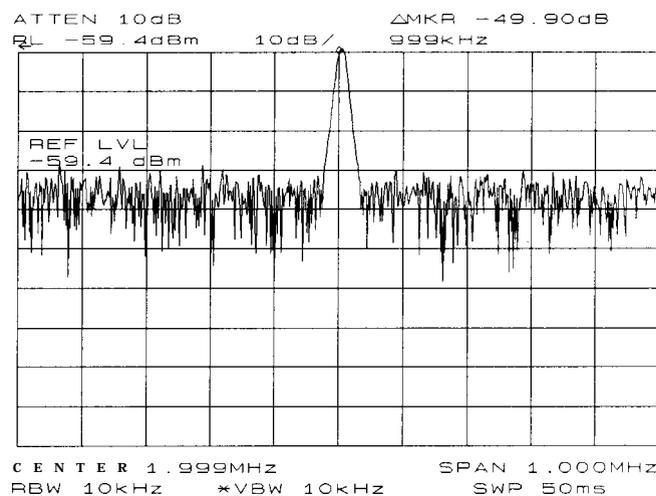

Figure 2-20. Second Harmonic Displayed in **dBc**
6. Adjust the harmonic to the reference level. (Note that the **MARKER**  $\rightarrow$  **REF LVL** function is not available in marker-delta mode.) This displays the amplitude of the second harmonic as shown in Figure 2-20.